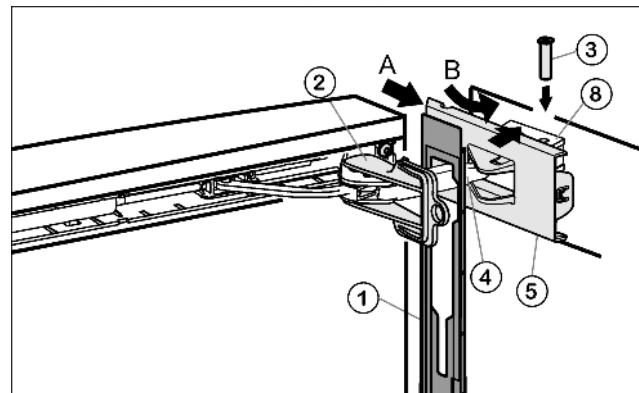

Fig. 24
- ▶ Hook panel Fig. 24 (1) into the damper bracket Fig. 24 (4) such that the detent hooks are pointing inwards and the front side is facing the appliance.
- ▶ Push on cover Fig. 24 (5) from the outside (A) and pivot over the bearing part Fig. 24 (8) (B).
- ▶ Place cover Fig. 24 (5) on top and allow to snap into place until the first notch.
- ▶ Pull damper bracket Fig. 24 (4) towards bearing part and insert bolt Fig. 24 (3) from above such that the square is resting in the recess.
- ▶ Now snap cover Fig. 24 (5) completely into place on the bearing part Fig. 24 (8).
- ▶ Remove locking device *Fig. 24 (2)* by twisting it.
- ▶ Snap panel *Fig. 24 (1)* into place on the door.